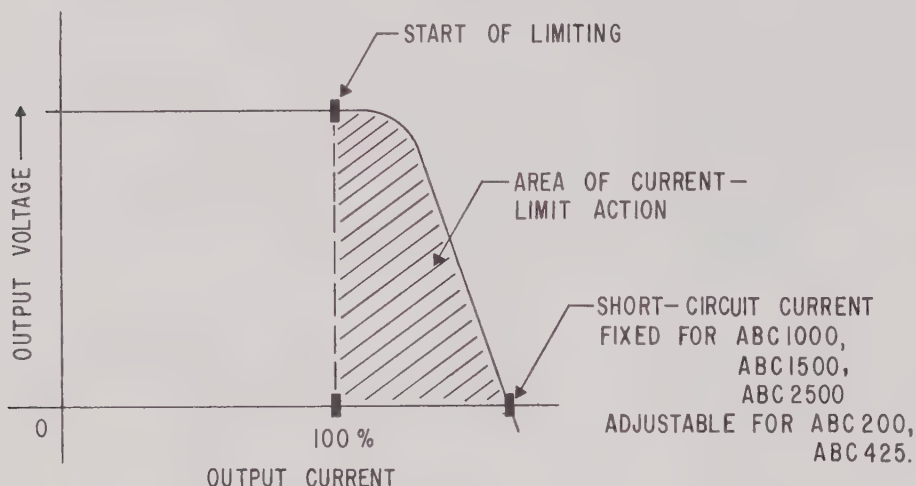

FIG. 3-1 CURRENT LIMITING CHARACTERISTIC, ABC-HYBRID POWER SUPPLIES
150% of their rated maximum output current, Models ABC 200 and ABC 425 are equipped with front panel controls which permit the adjustment of the short-circuit current in the range from approximately 25% to 150% of their rated maximum output current. This control should be set to approximately one third higher than the actual operating current required, since current limiting action begins when the output current reaches $\approx 75\%$ of the value to which this control is set. (Refer to FIG. 3-1)
- 3-8 Operation of the power supply in the area of current limiting (see FIG. 3-1) will degrade power supply performance. When lower settings of the short circuit current are not essential, the SHORT CIRCUIT ADJUST control should be left at its maximum clockwise position. At this setting, the power supply can be operated at any current up to its rated maximum, without going into current limiting. Overload protection will still be present for current exceeding the maximum rated output current of the power supply.